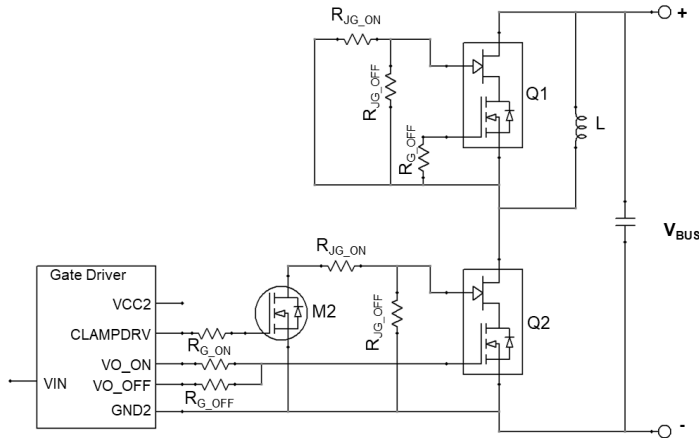

Figure 23. Schematic of the half-bridge mode switching test circuit with ClampDRIVE method.
5. Measured with the half-bridge mode switching test circuit in Figure 23.